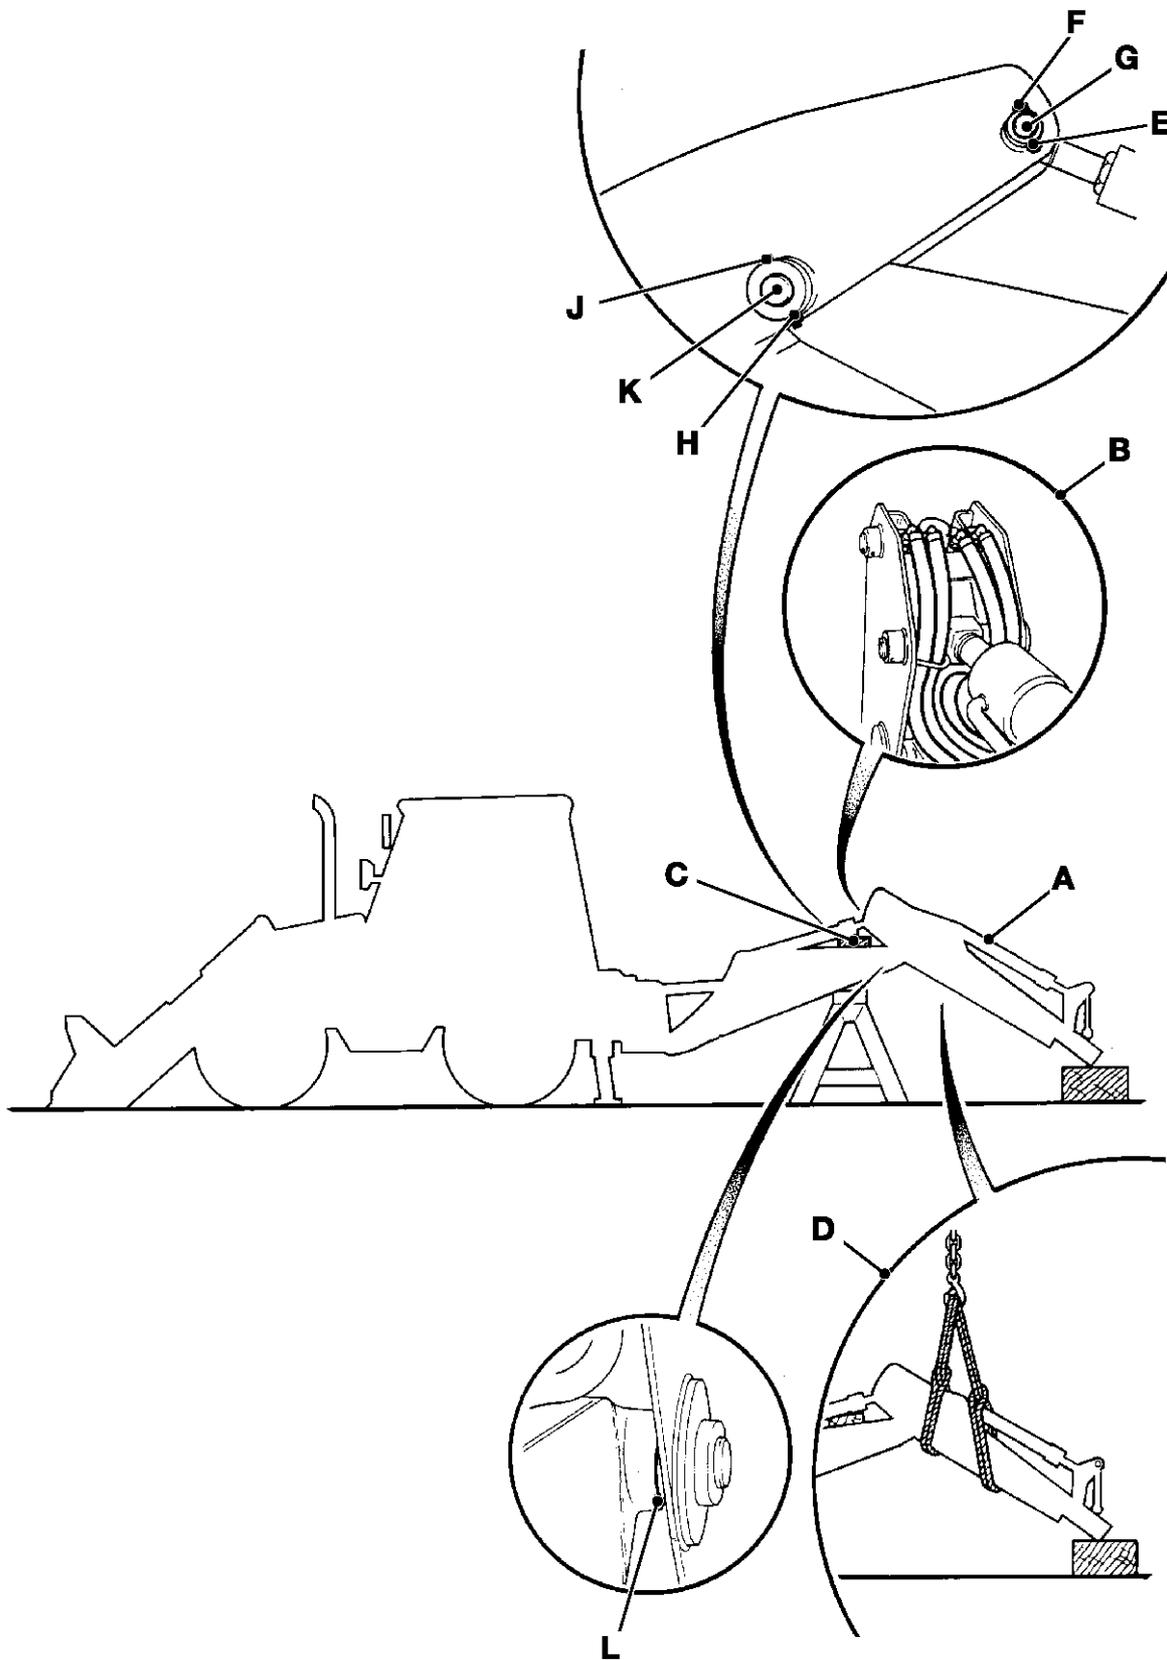

Fig 13. Dipper
- 1 → **Fig 13. (□ B-121)**. Remove the backhoe bucket and place the backhoe in the position shown at **A**.